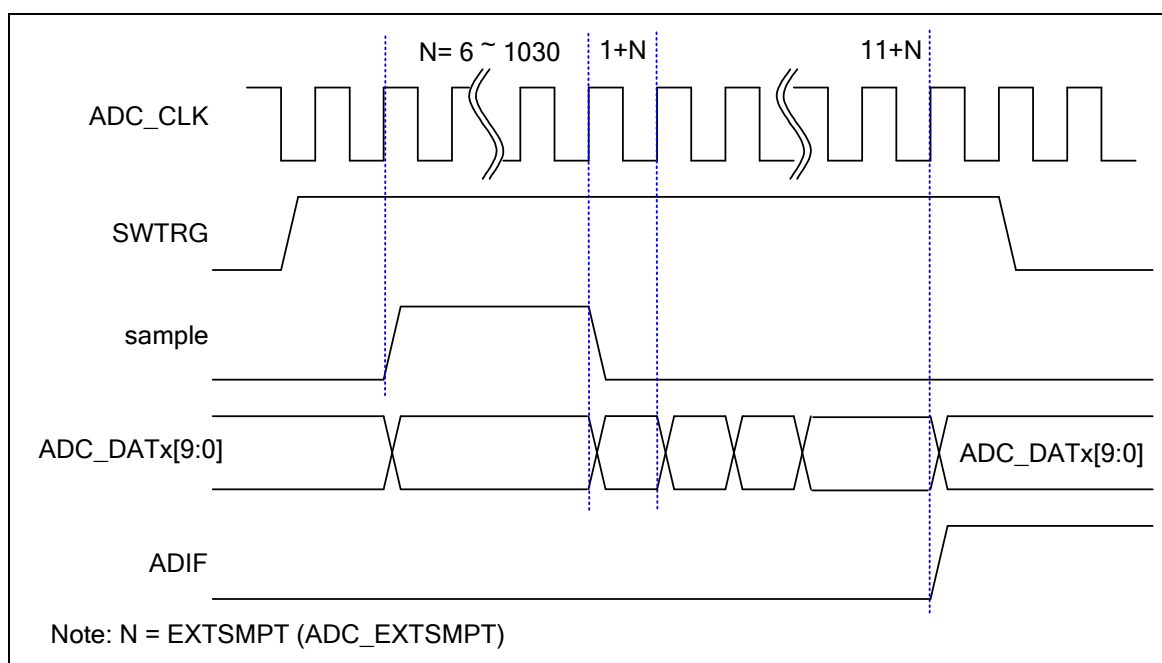

Figure 6.12-3 Single Mode Conversion Timing Diagram
5. Figure 6.12-3 shows an example timing diagram for Single mode.